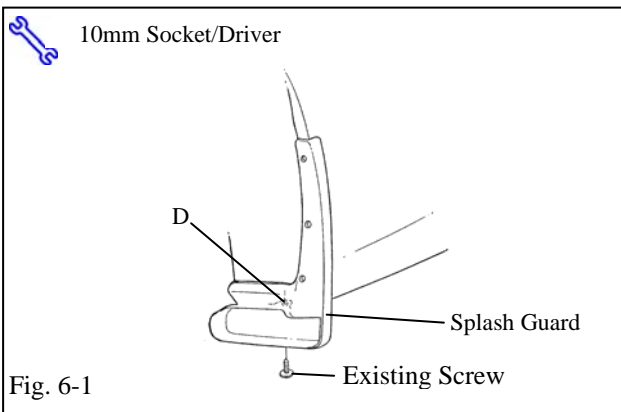

Fig. 6-1
-  (a) Mount mudguard and reinstall existing screw in location D while holding part up and into bumper panel and tighten. (Fig. 6-1)